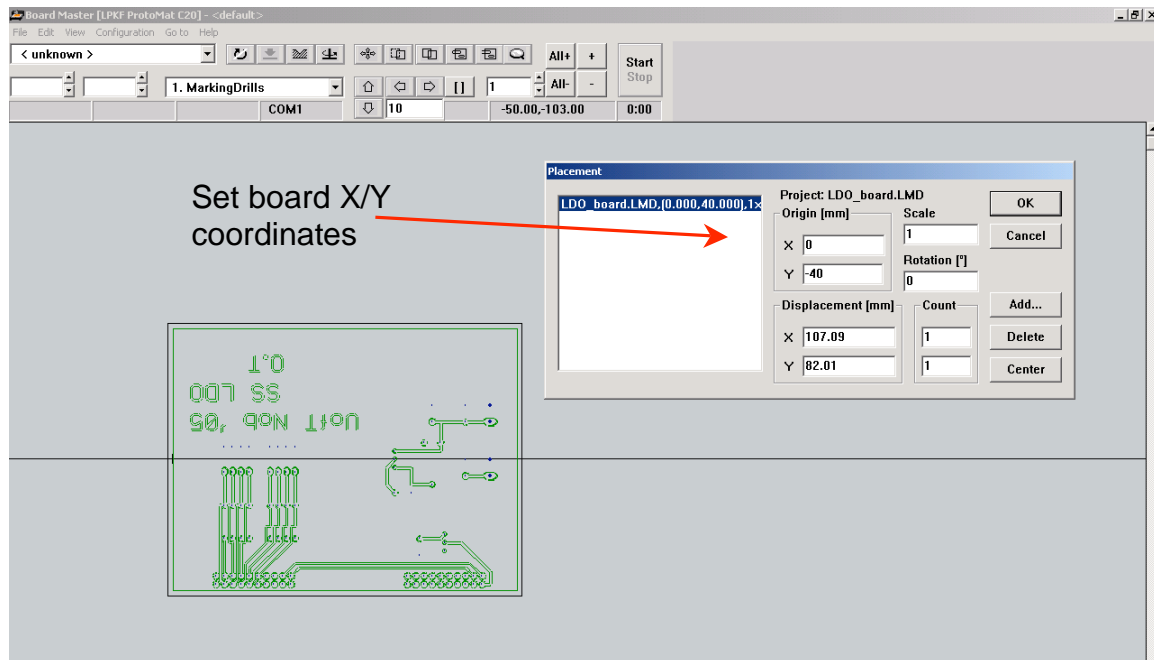

Figure 30: The PCB design is imported into BoardMaster. Only the bottom layer is visible. The drill holes are shown in blue.
4. Your design should appear as shown in Figure 30; only the bottom layer should be visible. Right click on the board to change the location if desired. The coordinates can be entered directly.